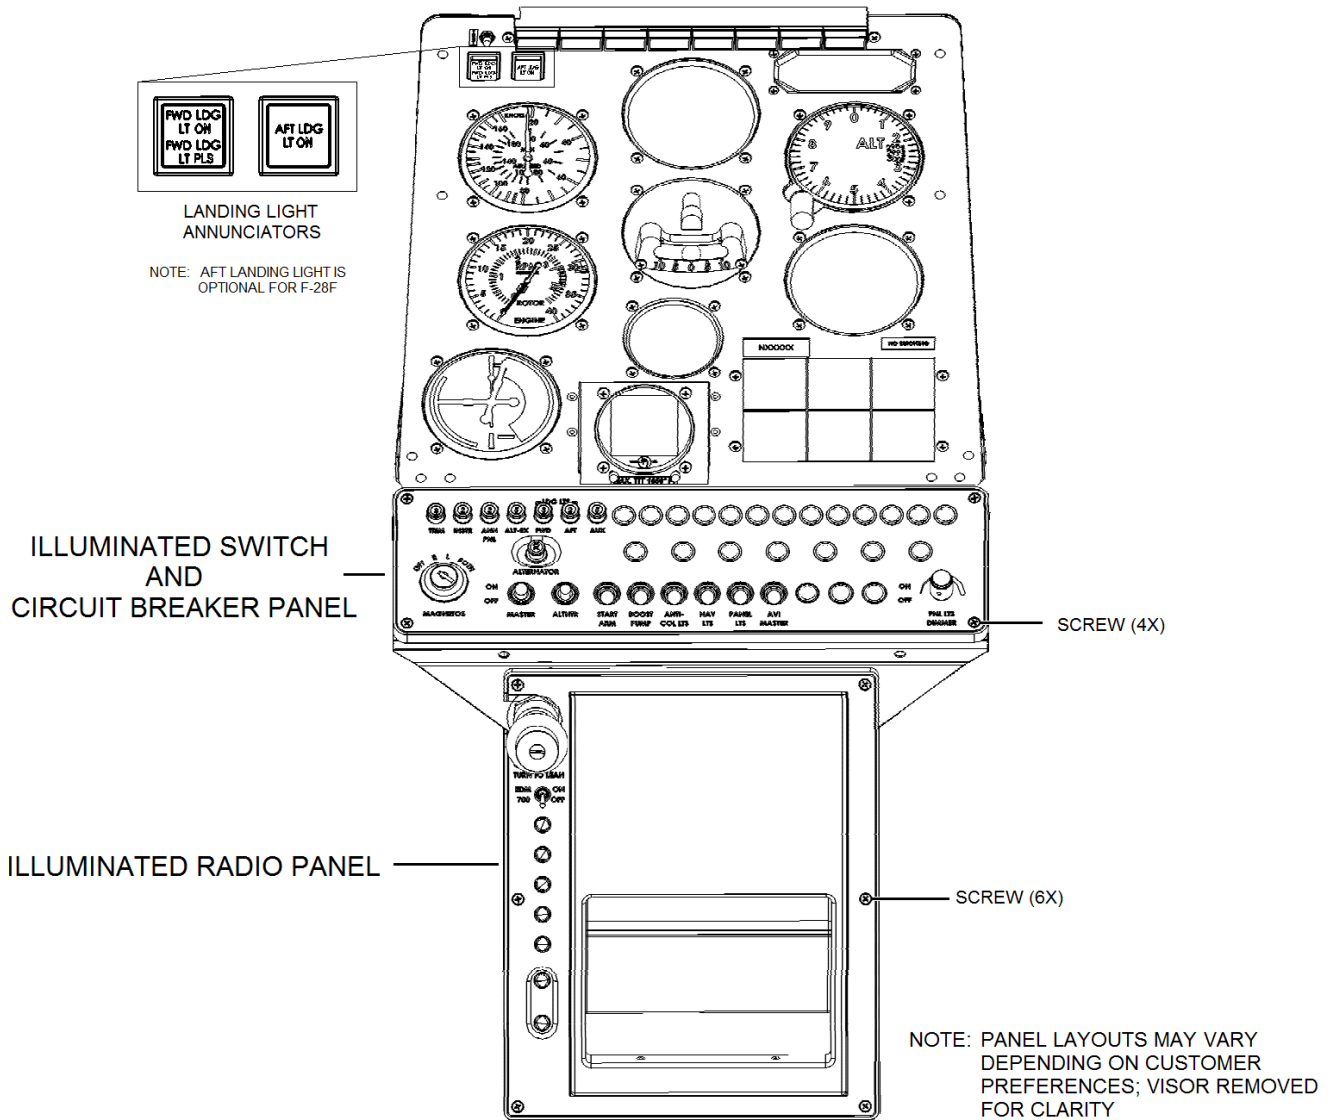

Figure 21-4. Illuminated Switch/Circuit Breaker and Radio Panels
A depiction of the illuminated panels is shown in Figure 21-4.
- (1) Remove power from the aircraft.
- (2) Center all toggle switches and remove the PNL LTS DIMMER knob.
- (3) Remove the screws (4X) (Figure 21-4).
- (4) Lift the panel away from the console to access the electrical connector.
- (5) Disconnect the electrical connector and remove the panel.
- (2) Center all toggle switches.
- (3) Remove the screws (6X) (Figure 21-4).
- (1) Connect the electrical connector.
- (2) Install the panel in position.
- (3) Install the screws, as required (Figure 21-4).
- (4) Install the dimmer knob, if required, and toggle all switches to OFF or as required, as applicable.
- (5) Apply aircraft power and check the illuminated panel operation.